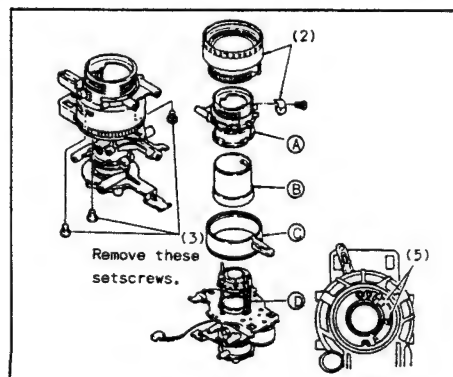

Fig. II-26
2-2-9 Replacement of Zoom Ring (Refer to Fig. II-26)
- (1) Attach the cam ring and the zoom ring to the fixed lens barrel.
- * Note: Engage the cam ring with the part (E) of the zoom ring.
- (2) Set the zoom lever to position (H). Mount the fixed lens barrel straight gradually.
- * Note: Align the zoom shafts (F) x 3 with the positioning holes (G) on the fixed lens barrel.
- (3) Set the zoom ring to the telephoto end position. Attach the variator retaining plate spring. (See Fig. II-26 (5))
- (4) While taking care not to allow the fixed lens barrel to come off, turn the focus side down.
- (5) Secure the fixed lens barrel to the relay holder with three setscrews.
- (6) Mount the focus lens a'ssy. on the fixed lens barrel.
- (7) Attach the N stopper to the fixed lens barrel.
- (8) Install the AF block, AF C.B.A., AF motor and PZ motor.
- (9) Check each section if operates properly.
- (10) Perform AF distance measuring adjustment. If deviated, adjust it.